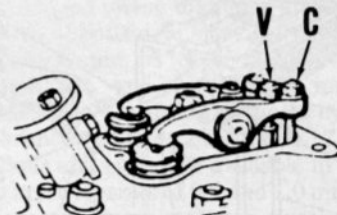

Fig. L4-11—Drawing showing location of exhaust valve tappet adjusting screw (V) and compression release adjusting screw (C).
Valve tappet gap may be adjusted after removing rocker arm cover. Valve tappet gap should be 0.15 mm for both valves with engine cold. Note that there are two adjusting screws (Fig. L4-11) in exhaust rocker arm. Adjusting screw (V) nearer rocker arm shaft is used to
The compression release is adjusted by turning outer adjusting screw (C-Fig. L4-11) in exhaust valve rocker arm. Adjust compression release gap AFTER adjusting exhaust valve tappet gap. With compression release lever in off position, clearance between adjusting screw and shaft should be 0.9-1.1 mm.